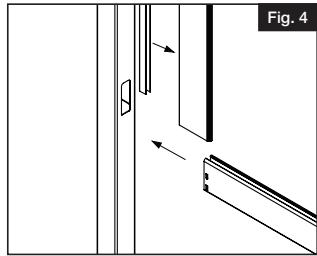

Fig. 4
- a. Snap lower privacy panel rail into both posts on the same wall (Fig.4).